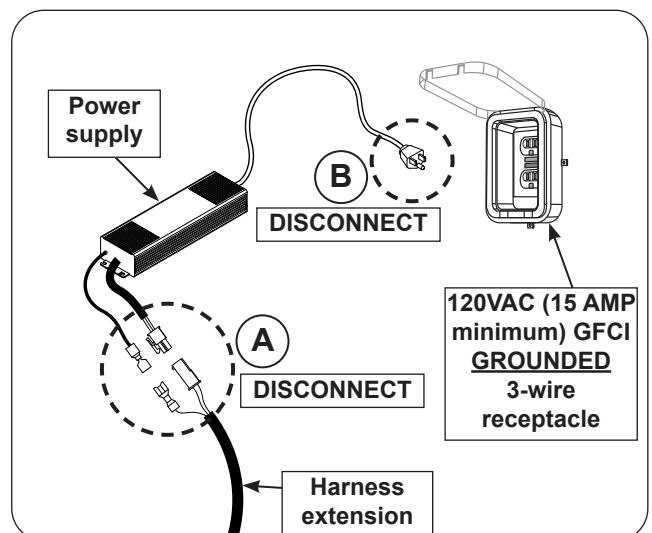

Fig. 39-3 Perform system reset
2. Disconnect the harness extension from the power supply (see Fig. 39-3, A).
3. Disconnect the power supply from the power source. (see Fig. 39-3, B).